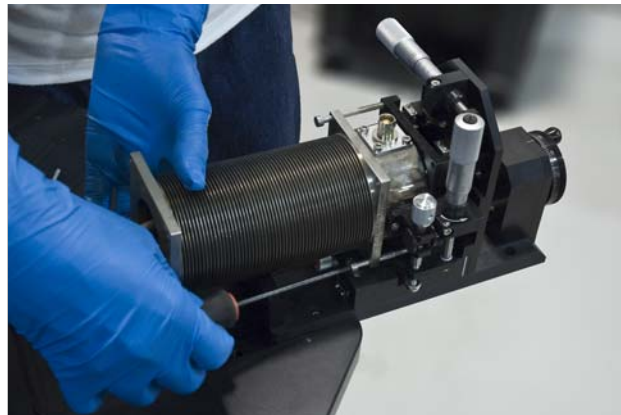

FIGURE 5-27 Loosening the four M4 horizontal screws
2. Using a 3 mm hex driver, loosen the four long M4 horizontal screws that attach the bellows to the z-axis stage, so the probe arm base can rotate (FIGURE 5-27). Simply loosen them two to three rotations; do not remove them.